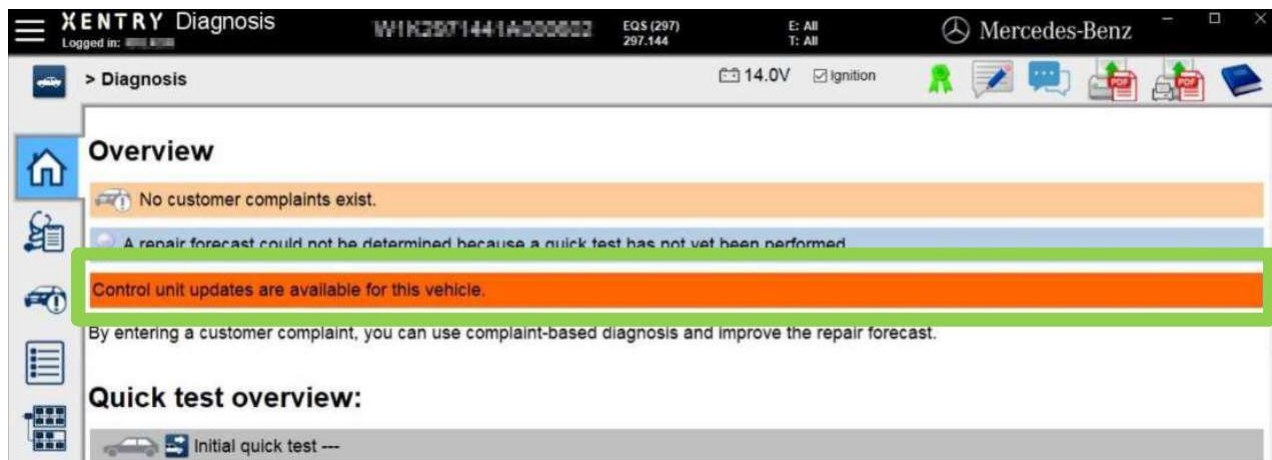

Figure 1
-  Via the **orange** special menu item, start "**Control unit updates are available for this vehicle**" (Figure 1).